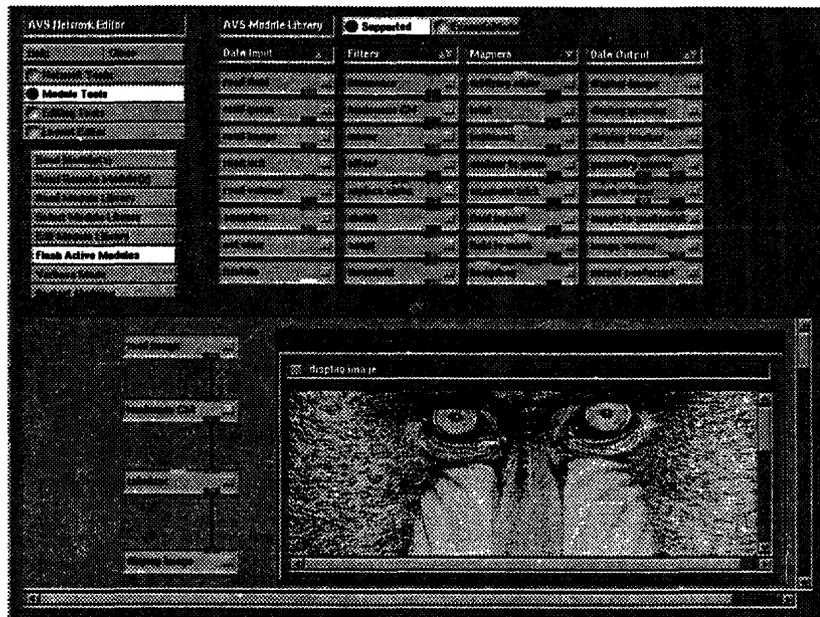
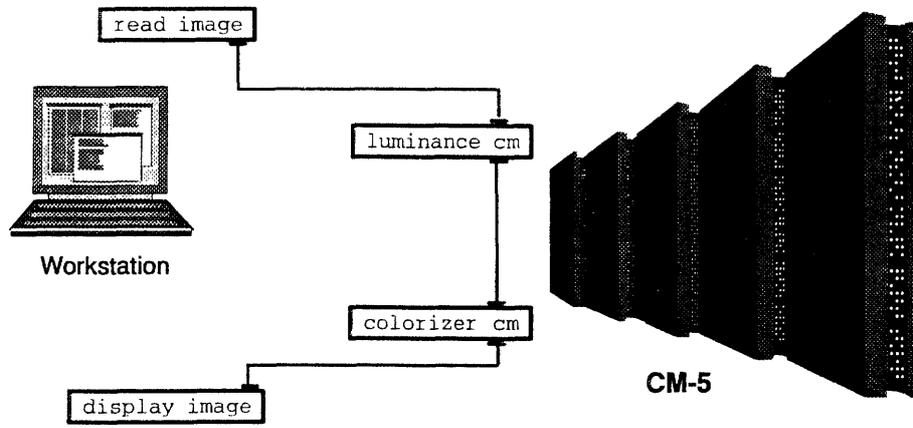

Figure 3. The complete network and display.
Figure 4. Example network: processing locations.
4. Drag one instance each of the following modules into the network editor workspace. Place them as shown in Figure 3. The appearance of colored badges designating input and output ports indicates that the AVS modules are active and ready to accept connections. *Wait for the ports to appear* on one module before you drag in the next one. (Section 2.5 explains the benefit of waiting.)
5. When all four modules are active, connect the output of **read image** to the input of **luminance cm**: position the cursor over the **read image** output port, press the middle mouse button, move the cursor to the **luminance cm** input port, and release. Similarly, connect the output of **luminance cm** to the input to **colorizer cm**, and the output of **colorizer cm** to the input to **display image**. See Figure 3.
6. Select **read image** on the Network Control Panel and read the image `/usr/avs/data/image/mandrill.x`. (This image file is included with AVS.) The modules in the network change color when they are active, so you can watch as the image data progresses through the network. During processing, it is actually transferred to the CM-5 for luminance and colorizer calculations, then back to the local workstation to be displayed. See Figure 3 and Figure 4.